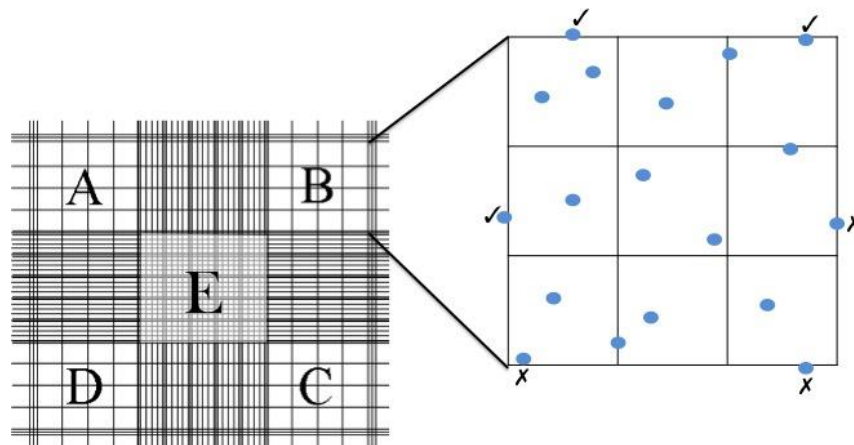

Figure 1. Hemacytometer
5. Count the cells in each of the four corners (A to D) and middle square (E). In your count you should include the cells that are touching the top and left-hand perimeter lines, but not those that lie on the bottom and right-hand perimeter lines (refer to figure 1)